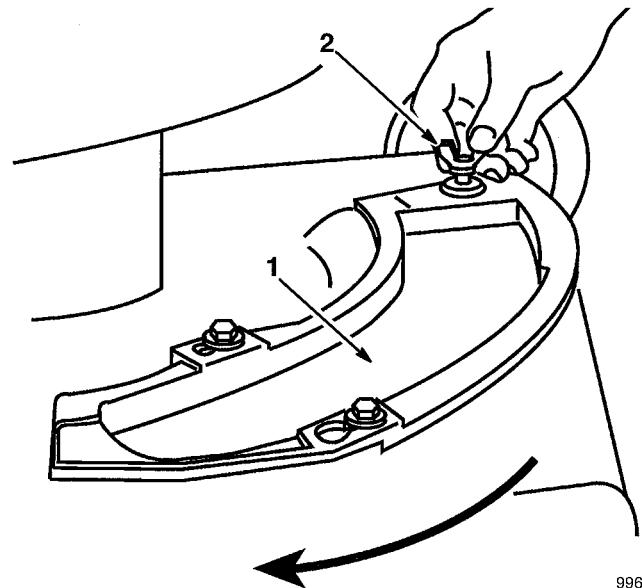

Figure 4
Your mower was shipped with a cover plate (Fig. 4). For side discharge operation the plate must be installed into deck opening.
2. Remove wing screw that fastens cover plate to the housing (Fig. 4).